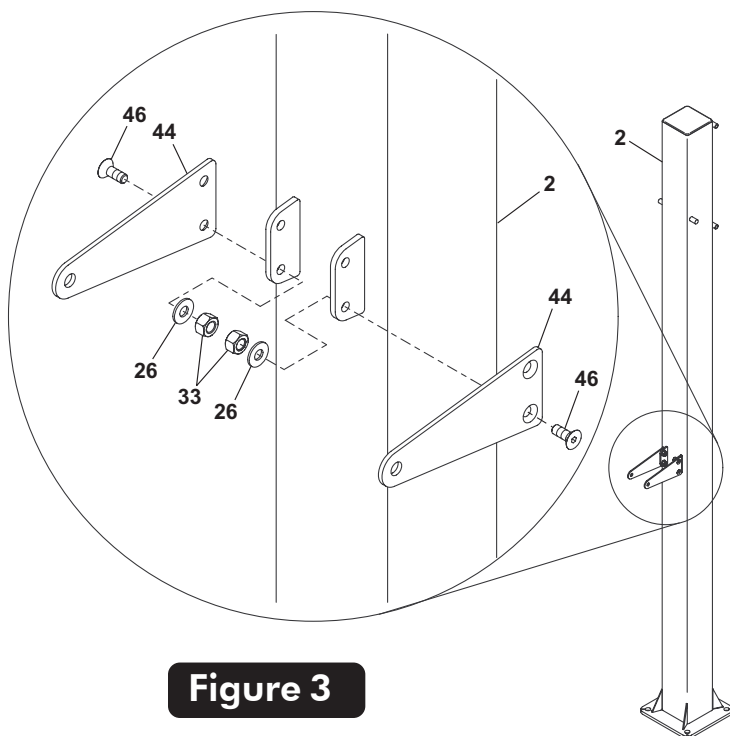

Figure 3
1. Using Allen Wrench (#45) provided, attach Post Brackets (#44) to outside of brackets on back of Post Assembly (#2). Secure with two Flat Head Screws (#46), two Flat Washers (#26) and two Locknuts (#33) in each Bracket (#44). See Figure 3.